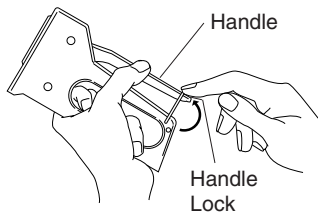

Figure 3
3. While holding handle down, slip handle lock up over handle (see Figure 3, page 3).